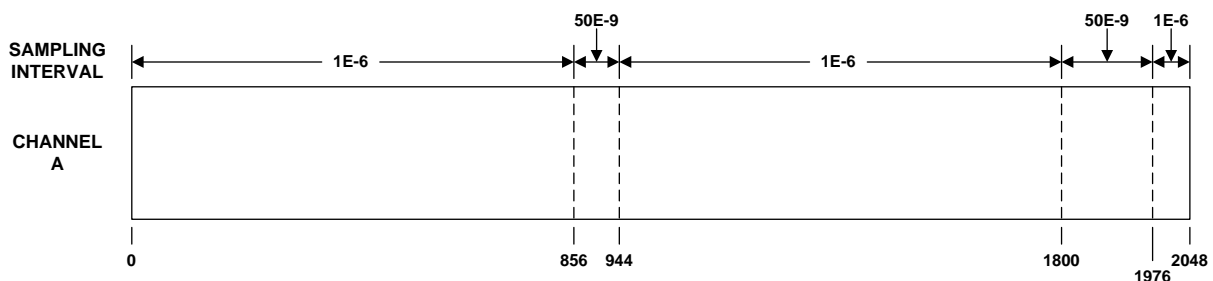

FIGURE 2-8: BREAKPOINT EXAMPLE - MEMORY PARTITIONS
- b. Press the < key once to display the next lower breakpoint and sample interval. By pressing < repeatedly, each breakpoint location/sample interval will be displayed one by one until the lowest breakpoint, at location zero, is displayed along with the sampling interval for the first segment. See Figure 2-8 for an illustration of the memory partitions set in the previous steps.